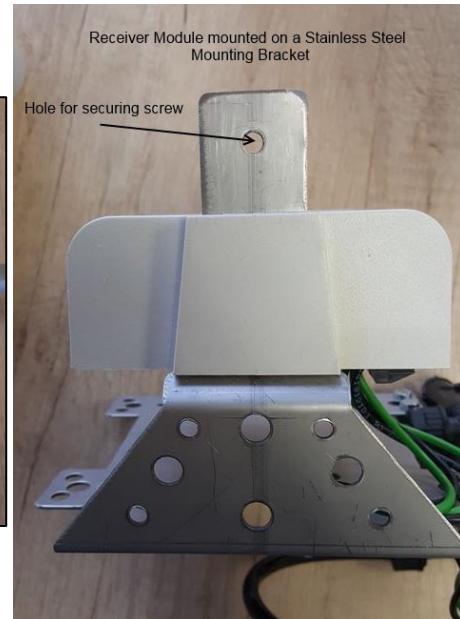

Figure 2: Receiver Brackets
- Mount the receiver module onto a stainless steel receiver bracket using the modules mounting slot as shown in Figure 2 below. Insert an M5 machined screw through the hole provided in the top of the modules mounting bracket and lock this in place with a machine nut to secure the module.